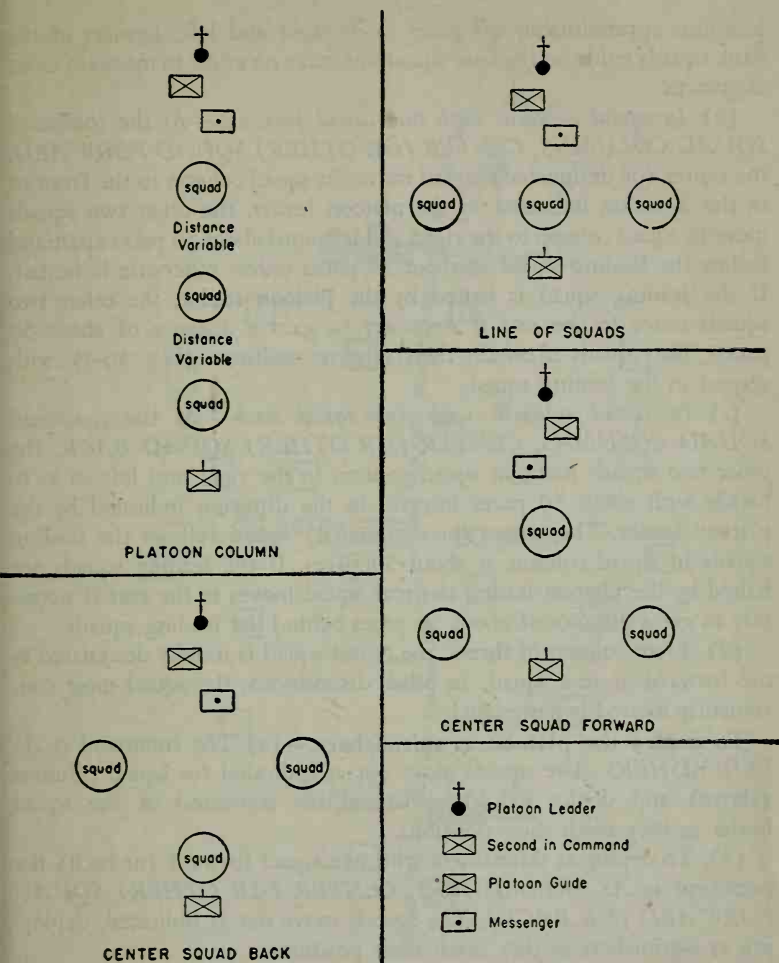

FIG. 56-4—Dispositions of the platoon.
(1) Column of threes.
(2) Column of twos.
(3) Platoon column (Fig. 56-4).
(4) Line of squads (Fig. 56-4).
(5) One squad forward, two squads back (Fig. 56-4).
(6) Two squads forward, one squad back (Fig. 56-4).
(b) *In squad columns with one squad forward.*—At the command **SQUAD COLUMNS, CENTER (OR OTHER) SQUAD FORWARD**, the center (or designated) squad moves in squad column to the front or in the direction indicated by the platoon leader, the other two squads move in squad column to the right and left until about 50 paces apart and follow the leading squad at about 50 paces unless otherwise indicated. If the leading squad is halted by the platoon leader, the other two squads move to the rear if necessary to gain a distance of about 50 paces. The squads maintain their relative positions (Fig. 56-4) with respect to the leading squad.